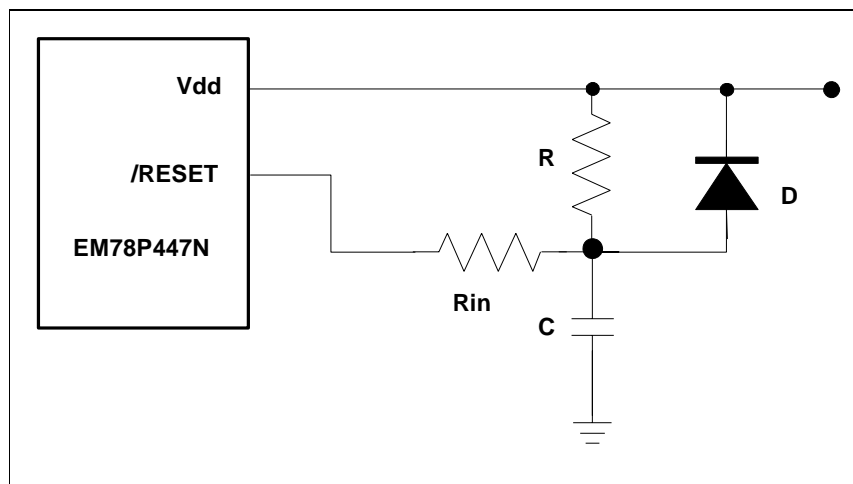

Fig. 4-12 External Power-Up Reset Circuit
The circuit shown in Fig.4-12 implements an external RC to produce the reset pulse. The pulse width (time constant) should be kept long enough for Vdd to reach its minimum operation voltage. This circuit is used when the power supply has slow rise time. Because the current leakage from the /RESET pin is about  $\pm 5\mu\text{A}$ , it is recommended that R should not be greater than 40 K $\Omega$ . In this way, the /RESET pin voltage is held below 0.2V. The diode (D) acts as a short circuit at the moment of power down. The capacitor C will discharge rapidly and fully. Rin, the current-limited resistor, will prevent high current or ESD (electrostatic discharge) from flowing to pin /RESET.